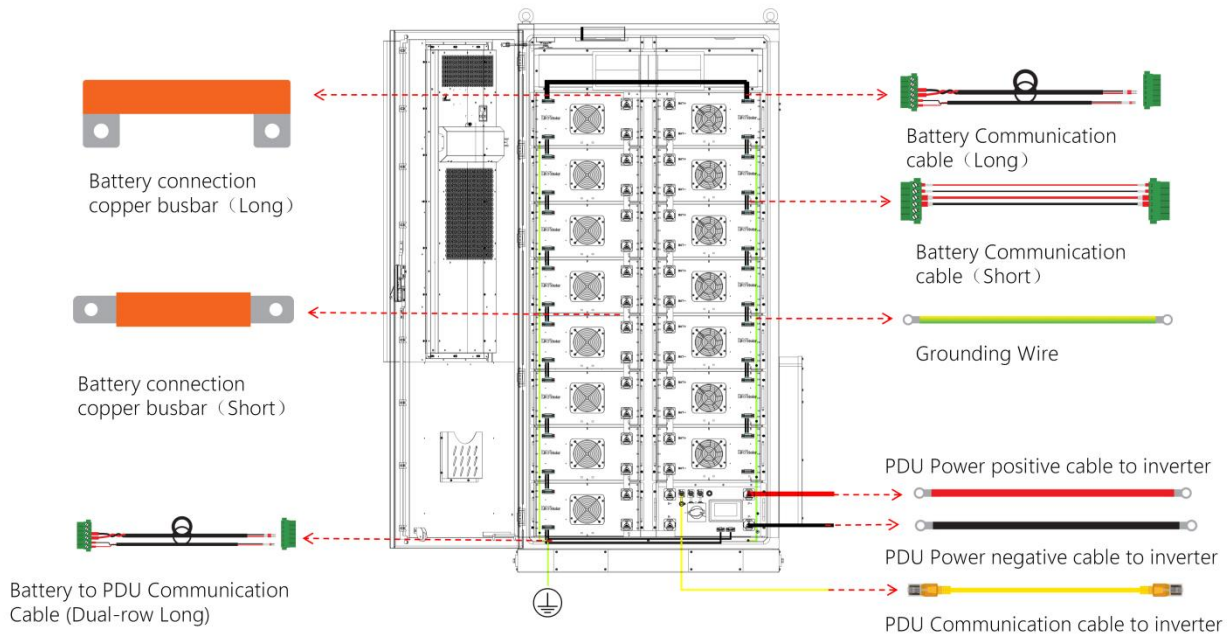

Figure 5-15 PACK Wiring
- Cable routing in the cabinet trunking shall comply with standardized paths and fixing requirements to ensure neat arrangement, good heat dissipation and convenient later maintenance. The cabinet is equipped with four trunking holes from top to bottom: positive battery power cable trunk, negative battery power cable trunk, communication cable trunk, and AC mains cable trunk for air conditioner, as shown in Figure 5-15.